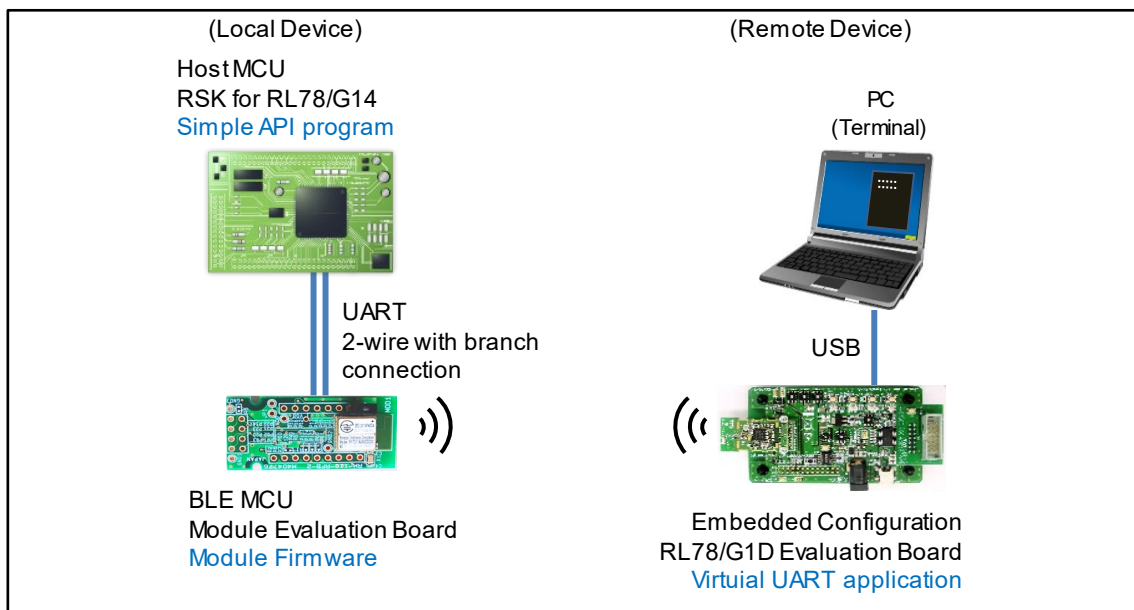
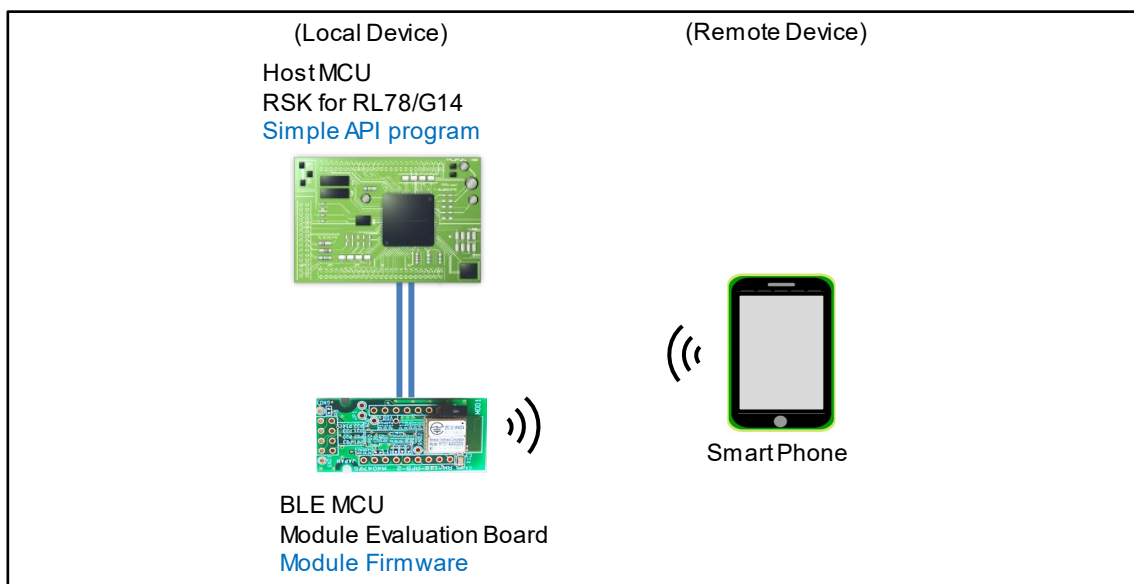

Figure 4-1 Operational Check Environment (1)
Figure 4-2 Operational Check Environment (2)
The executable files that can be used on the local device in "Figure 4-1 Operational Check Environment (1)" and "Figure 4-2 Operational Check Environment (2)" are shown below. For details on remote devices, refer to "4.2 Preparing Remote Devices".
It shows the execution procedure in "Figure 4-1 Operational Check Environment (1)".
The following shows the execution procedure when using an Android device in "Figure 4-2 Operational Check Environment (2)".
The following shows the execution procedure when using an iOS device in "Figure 4-2 Operational Check Environment (2)".